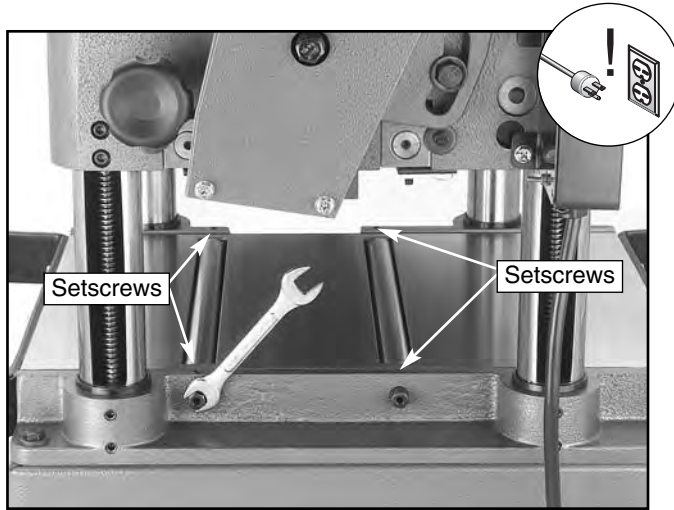

Figure 40. Adjusting bed roller height.
3. Loosen the setscrews on both sides of each bed roller. **See Figure 40.**